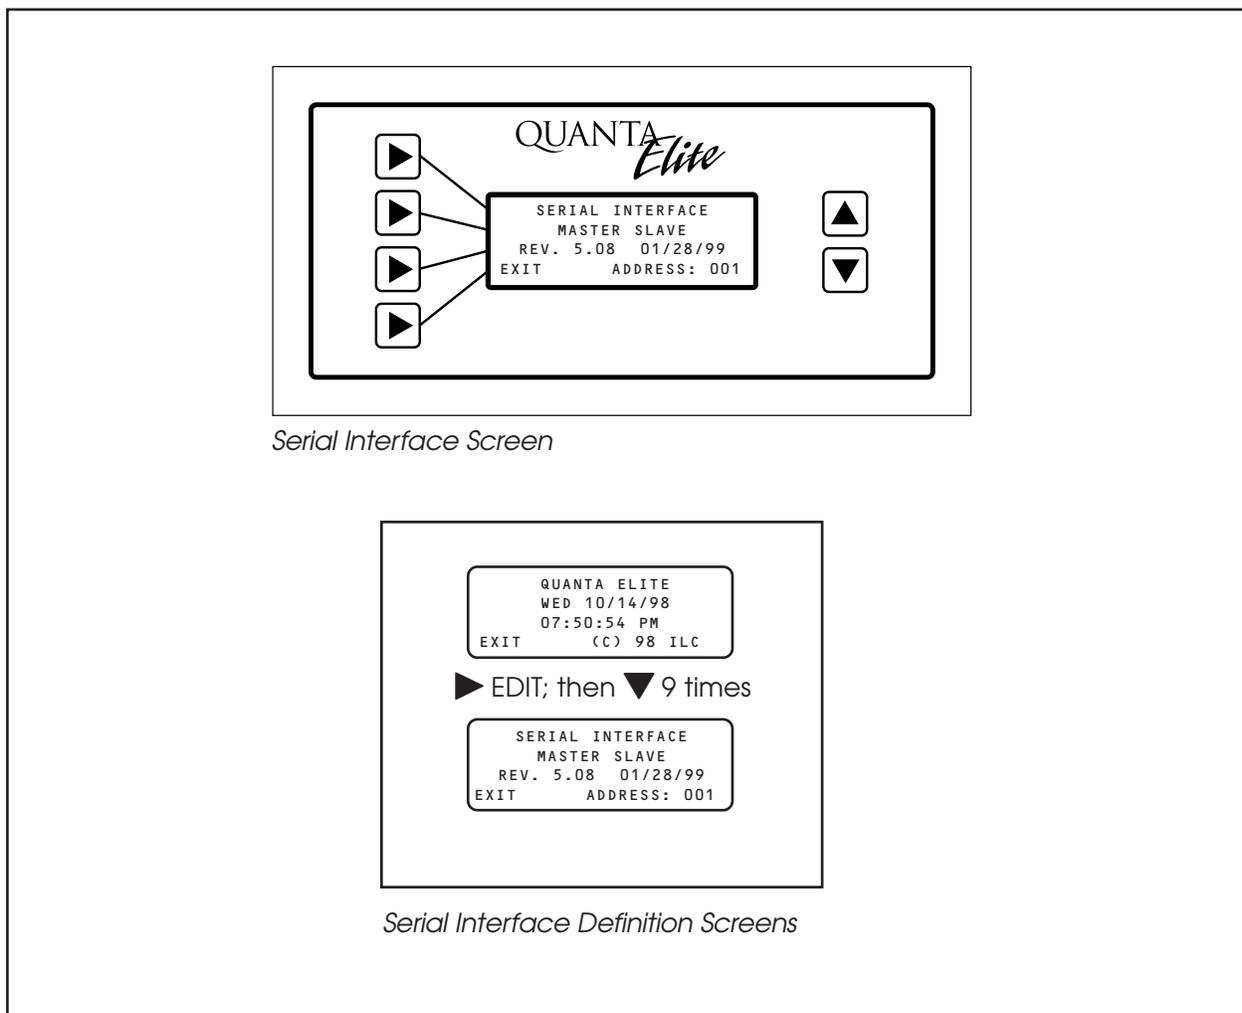

Figure 3.14
1. From the Home screen, press ► EDIT; then press ▼ 9 times. (See Figure 3.14.)